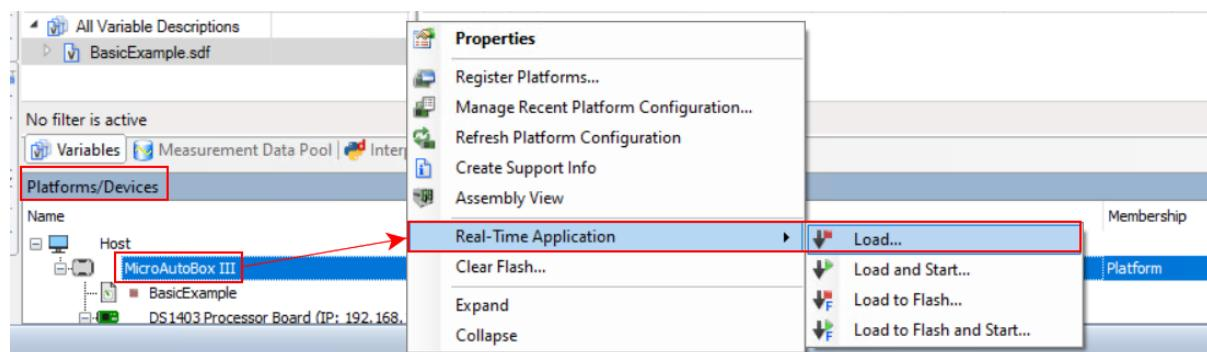
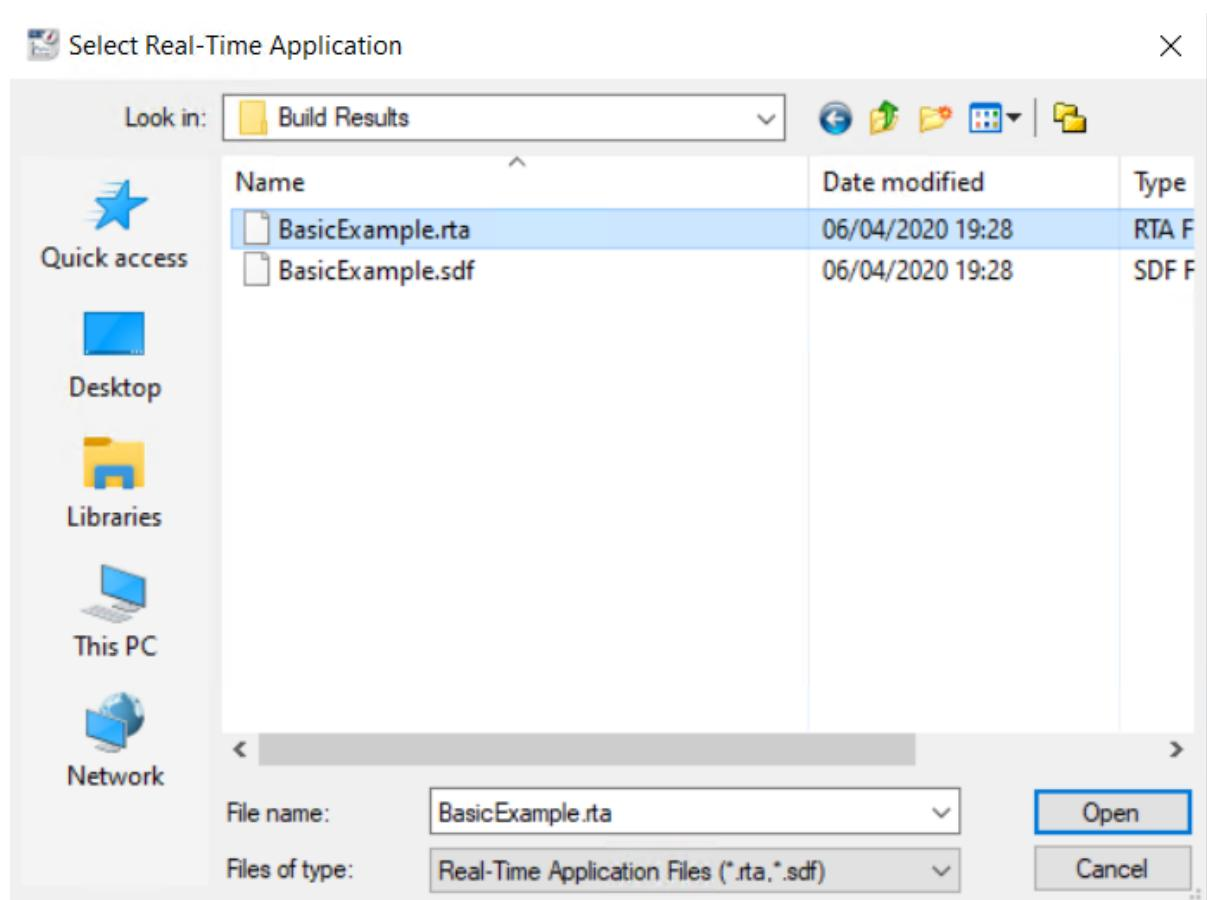

Figure 13.56: Load the application on the dSPACE platform.
Figure 13.57: Select BasicExample.rta from the ConfigurationDesk project folder.
- 9) Application should have already been loaded from the building of ConfigurationDesk. Otherwise, select the Platforms/Devices tab. Right-Click on your platform and select Real-Time Application > Load. Choose the executable file BasicExample.rta (see Figure 13.56 and Figure 13.57).